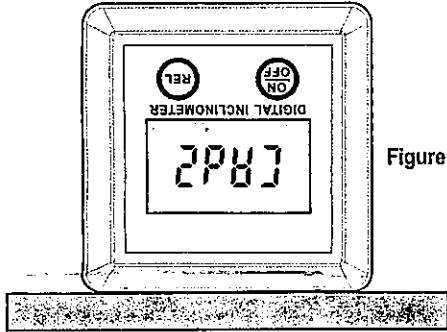
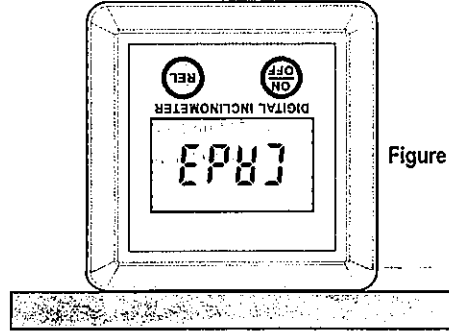

Figure 7
Figure 8
- Wait until the number "2" of the displayed "CA d 2" flashes, then rotate the instrument by 180° along the horizontal axis so that its front panel faces you as indicated in Figure 7. Press the "REL" key once. The display shows "CA d 3" (Figure 8).